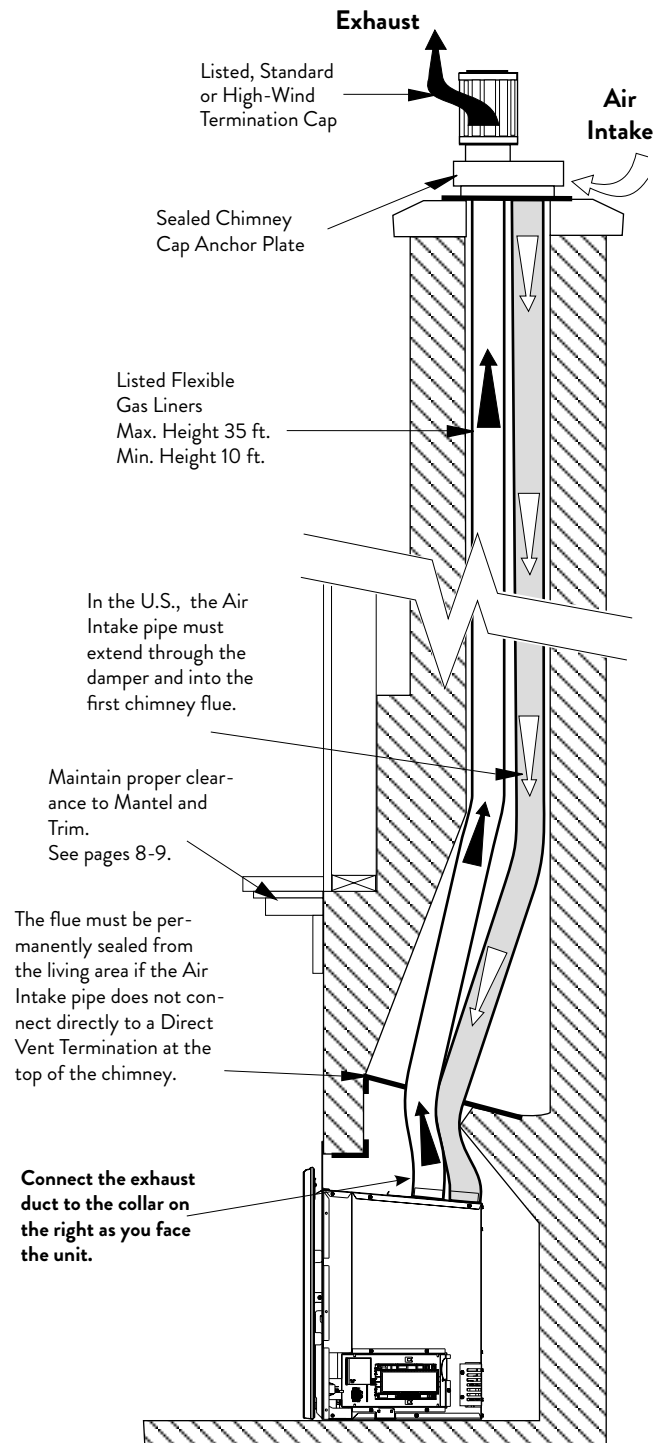

Figure 7. Masonry Fireplace Venting Configuration.
- The minimum height of termination cap from the top of the unit shall be no less than 10 ft.(3.05 m), and the maximum height shall be no more than 35 ft. (10.67 m). See figures 7 and 8.
This appliance must be vented through the chimney by a pair of 3 inch flexible aluminum liners listed for use with gas appliances. One duct is attached to the exhaust port on the top of the unit and will carry the exhaust gases to the outside of the house. This exhaust liner must run the full length of the chimney and be directly connected to the chimney termination cap. See figure 7 and 8.
The other 3 inch liner will be attached to the air intake port and will provide fresh air for combustion to the unit. This liner must extend through the damper area of the fireplace and at least into the first tile liner of the chimney. (U.S. ONLY). This liner can also extend the full length of the chimney and connect to the termination cap. **See NOTICES below.** See also figures 7 and 8.
If the intake flex does not extend the full length of the chimney and connect to the unit and the termination cap - **A METAL BLOCK OFF PLATE MUST BE CONSTRUCTED AND INSTALLED ABOVE THE UNIT BELOW THE END OF THE INTAKE DUCT** (normally at the damper area). See figure 7.